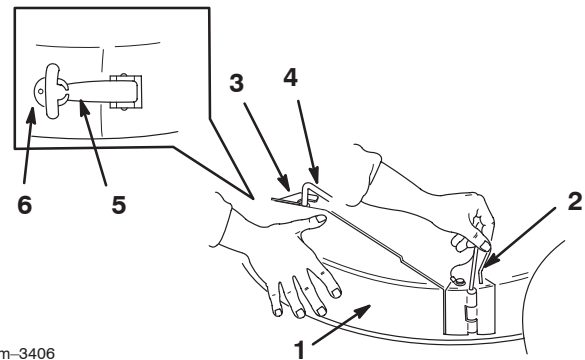

Figure 12
1. Slide the chute into position with the rear hook around the deflector rod and the front latch aligned. Insert the locking pin (Fig. 12).
2. Hook the flexible latch on the chute into the notched bracket on the back of the mower (Fig. 12)
2. Release the flexible latch and remove the locking pin securing the chute to the mower. Remove the chute from the mower (Fig. 12).